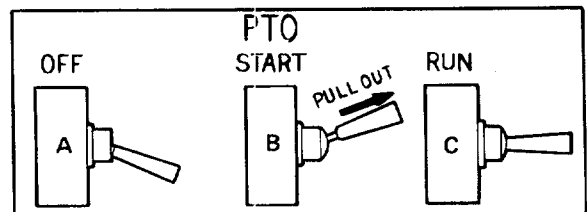

Figure 20
2. Flip the toggle switch to the "RUN" position. (See Figure 20.)
5. PTO switch must be in the "OFF" (A) position when shifting the tractor into reverse or the PTO will shut off automatically. To reengage the PTO, shift unit into neutral. Move PTO switch to "OFF" (A) position. Then pull knob out and lift up to "START" (B) position and release.